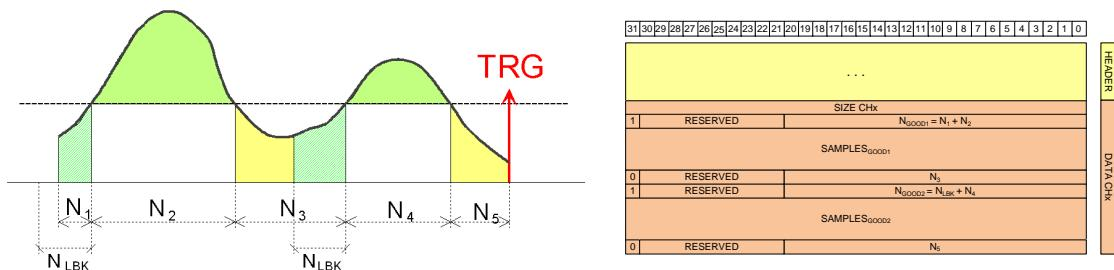

Fig. 8.13: Example with positive logic, N_{LBK} overlapping with N_1 , and $N_{LFWD} = 0$.
2. In some cases the number of data to be discarded can be smaller than N_{LBK} and N_{LFWD} : For example, consider the case where $N_1 \leq N_{LBK} < N_3$ and $N_{LFWD} = 0$ (positive logic) as reported in Fig. 8.13. The corresponding event format is reported on the right. All N_1 samples are tagged as good and acquired.